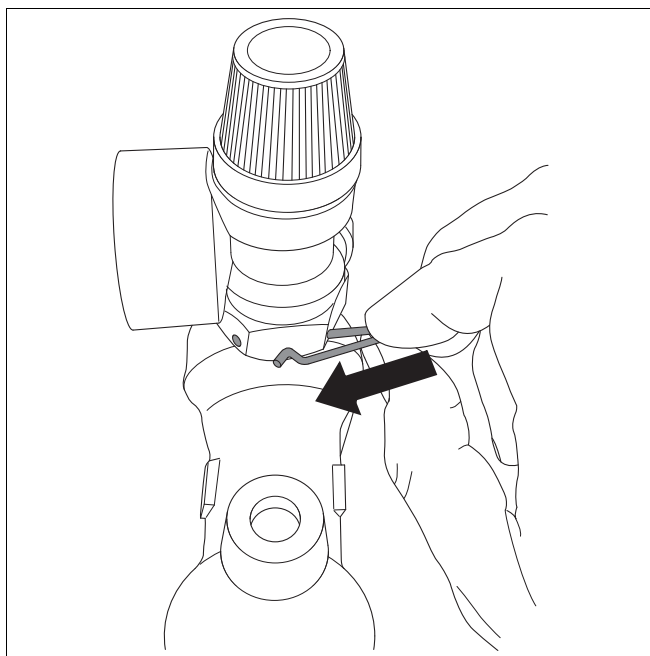

fig. 11 Re-fitting the retaining pin
- Re-fit the retaining pin through the valve body (fig. 11).